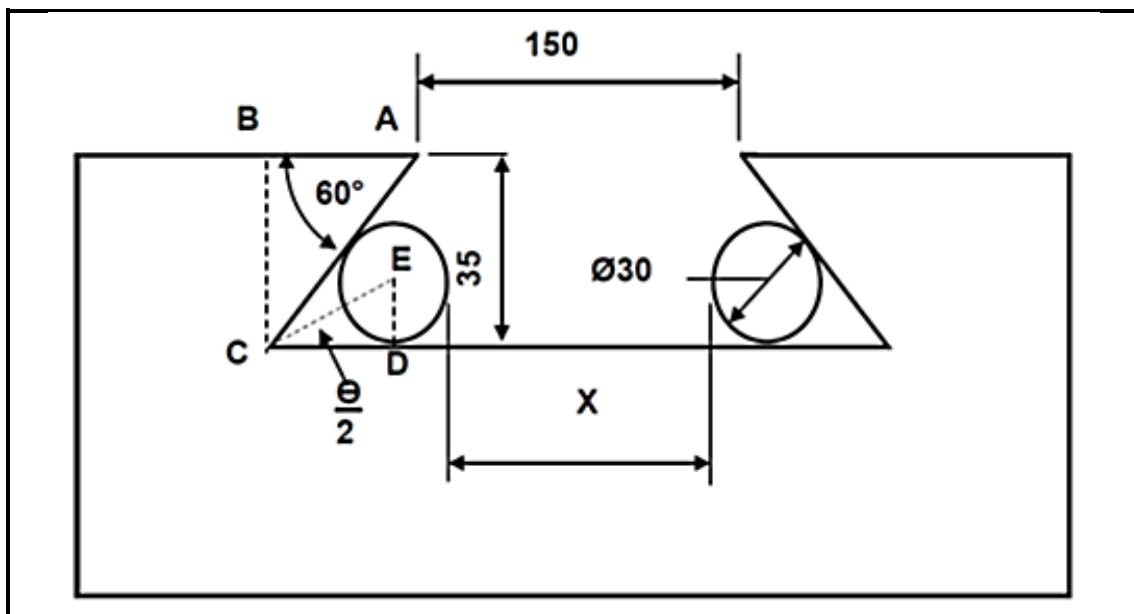

FIGURE 6.4
6.4 FIGURE 6.4 below shows a dovetail groove. Calculate distance **X** between the rollers in FIGURE 6.4.